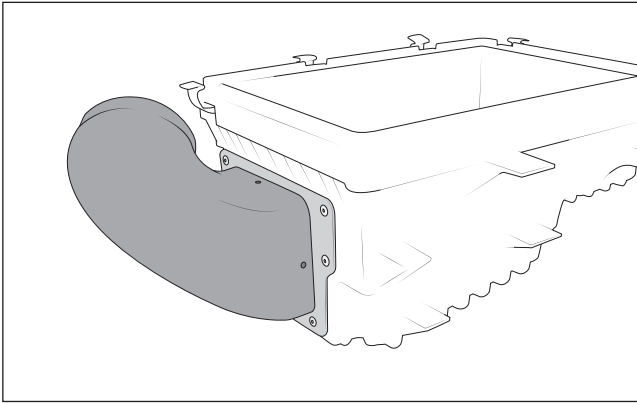

Figure 16
6. Rivet the air inlet elbow to the air inlet flange with the supplied rivets (Fig. 16).